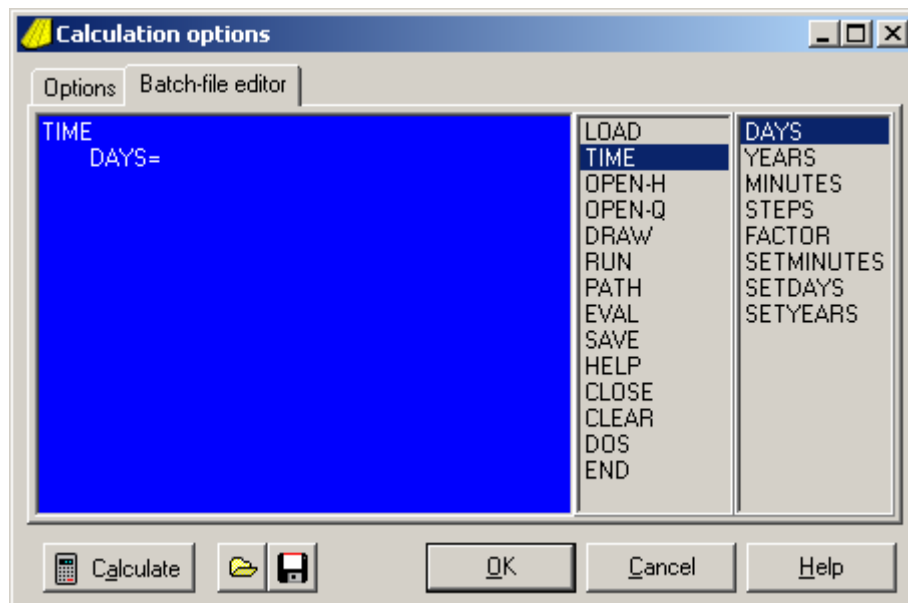

Figure 32: Batch-file editor (1)
- Click on the "Batch-file editor"-tab. In the Calculate window a simple text editor appears (Figure 32):